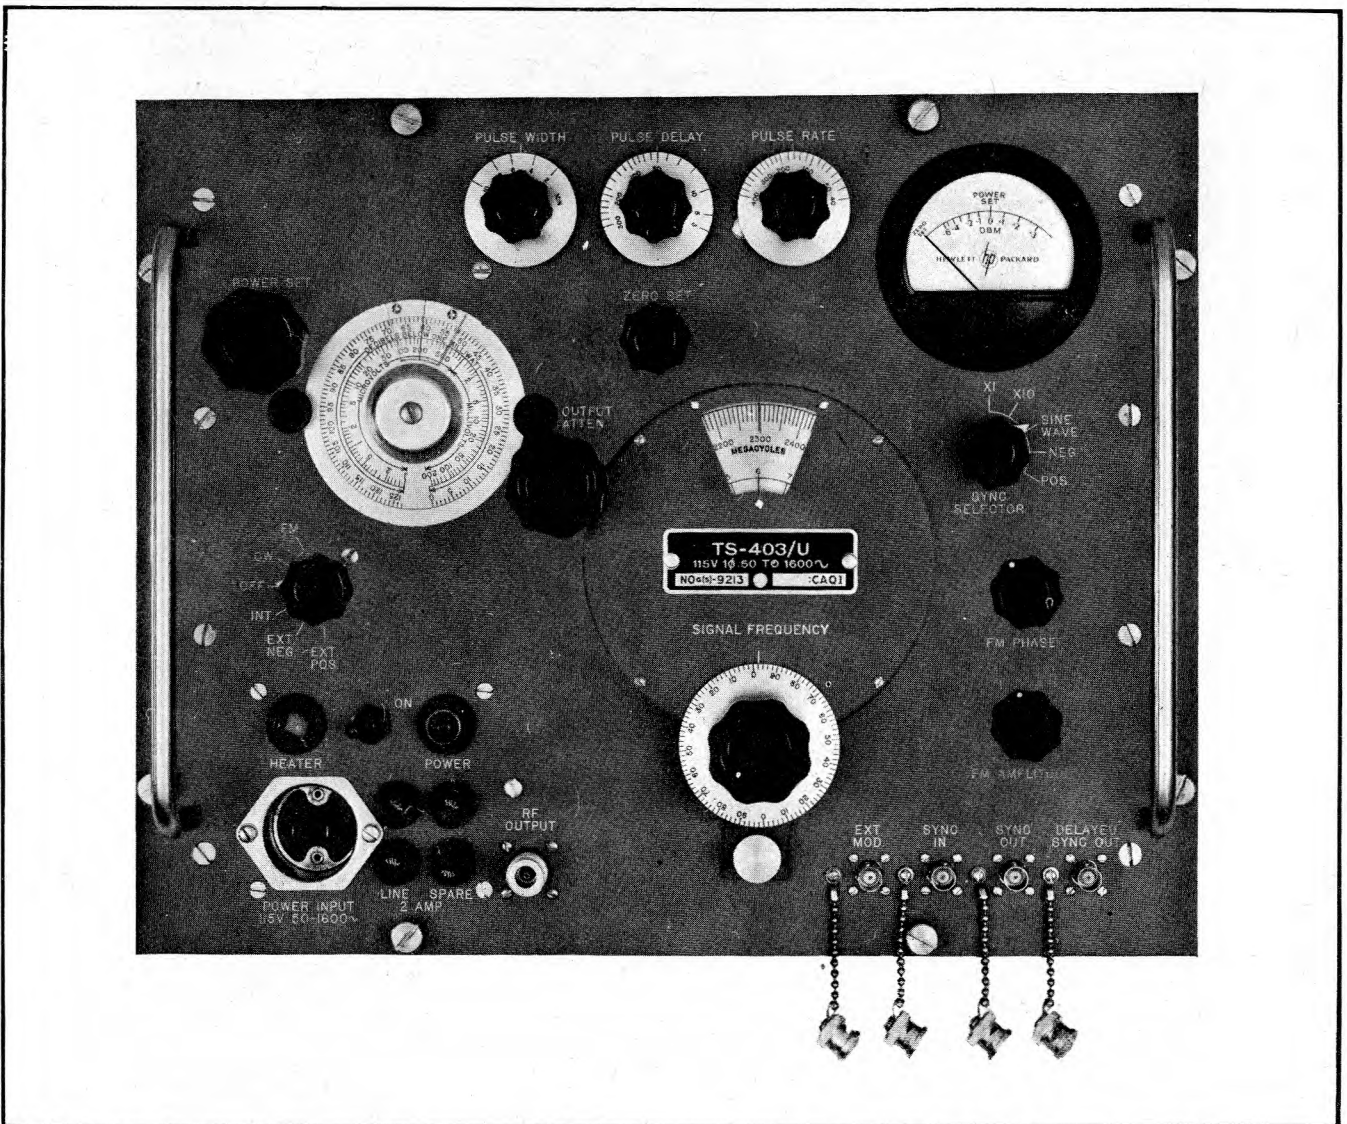
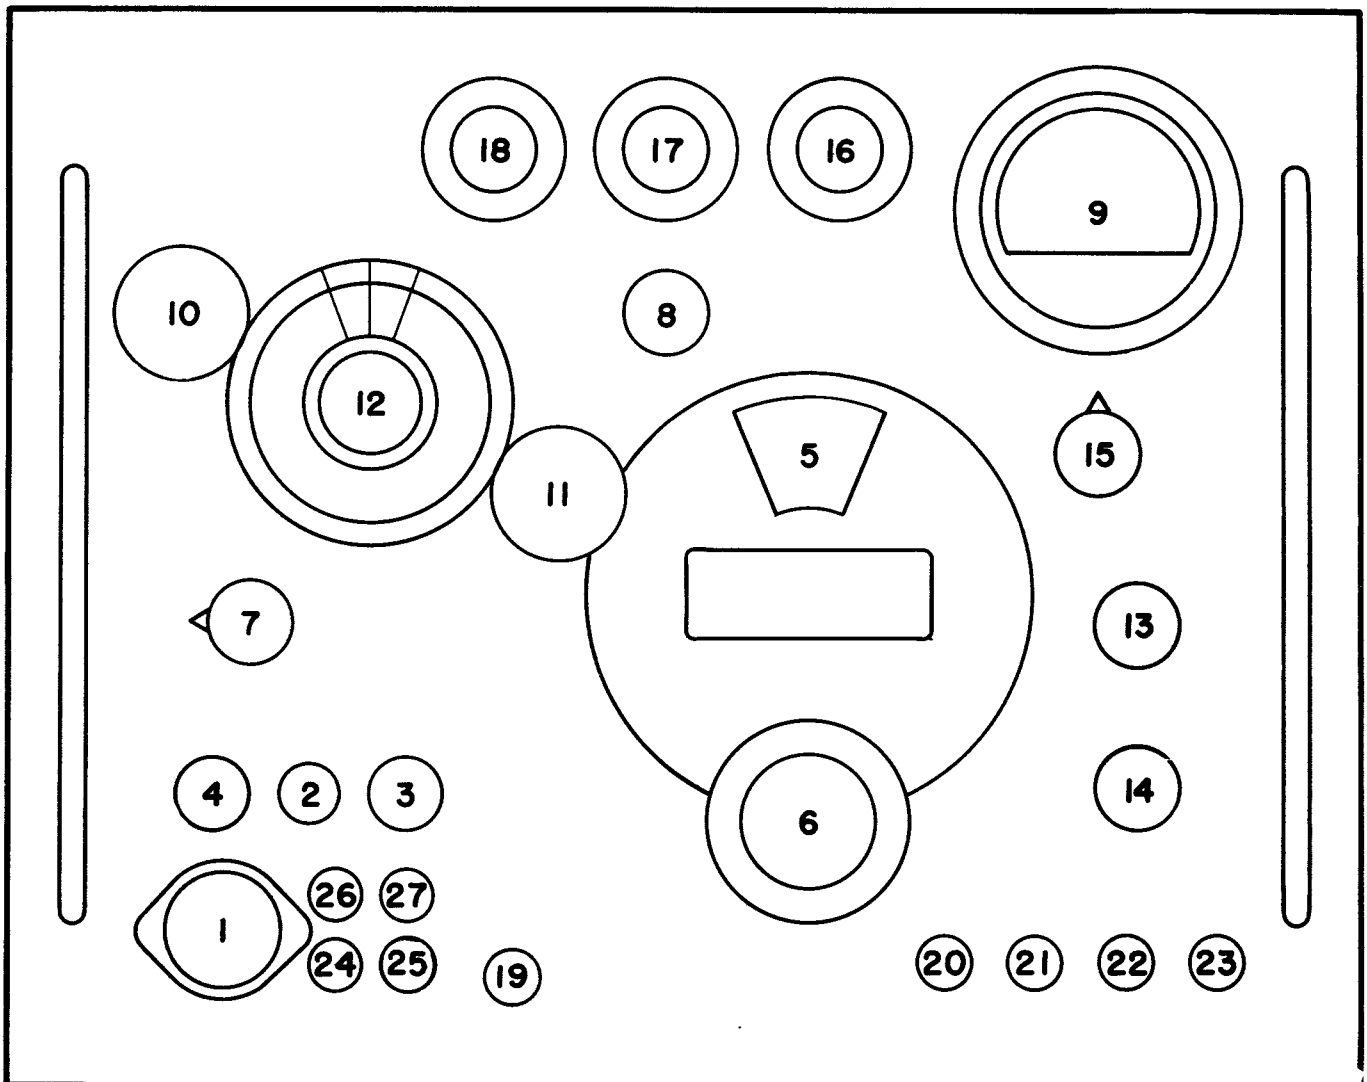

Figure 2-1. Signal Generator TS-403/U, Front Panel Controls
Figure 2-2. Signal Generator TS-403/U, Front Panel With Controls Numbered
a. CONTROLS.—All controls necessary for the operation of the instrument are located on the front panel. Figure 2-1 shows the front panel of the instrument, while figure 2-2 is an outline drawing of the panel with the controls, dials, and terminals numbered. These numbers are repeated in Table 2-1 which gives the name and function of the corresponding controls. The numbers are also used throughout this section as a reference to the controls.
(1) The main tuning dial (number 5 in figure 2-2) is calibrated directly in megacycles from 1800 to 4000 and is the frequency dial for the UHF oscillator. The setting of the main tuning dial is adjusted by control number 6, marked SIGNAL FREQUENCY. In addition to being calibrated directly in frequency, the main tuning dial is calibrated for every half turn of its control knob and the control knob is calibrated from 0 to 100 over each half of its periphery. This feature allows convenient resetting of the main tuning dial and permits interpolation of frequency readings if desired.
(2) Control number 7 is the oscillator modulation selector switch and allows the oscillator to operate in a variety of ways: frequency modulated, continuous wave, internal pulse modulated, external negative pulse or square wave modulated, or external positive pulse or square wave modulated. Before setting the control for any
d. OUTPUT TERMINALS.—Three output terminals are provided on Signal Generator TS-403 U, the most important being the RF OUTPUT terminal (number 19 in figure 2-2). At this terminal the rf output is obtained from the instrument.